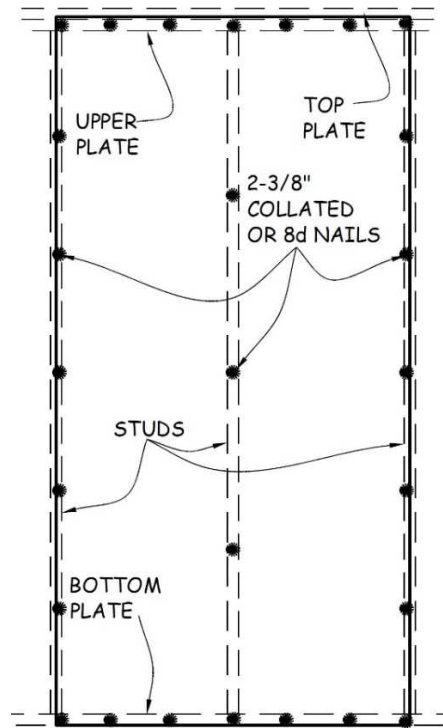

Figure 5-1. Non-Wind Bracing OSB Nailing Pattern.
3. Fasten all **wind bracing** OSB sheets with $2\frac{3}{8}$ " collated nails or 8d nails into each stud and the upper and bottom plate with a maximum 6" spacing. Fasten all **non-wind bracing** OSB sheets with $2\frac{3}{8}$ " collated nails or 8d nails following the Non-Wind Bracing Nailing Pattern: seven equally spaced nails down each side stud, five down the middle stud, and two between each stud in the upper and bottom plates (see Figure 5-1). Snap a chalk line on all OSB sheets indicating the location of studs within the sheet to help ensure nails do not miss the stud. After all the OSB sheets are fully nailed, pull the nails that are securing the upper plate of the wall to the deck.